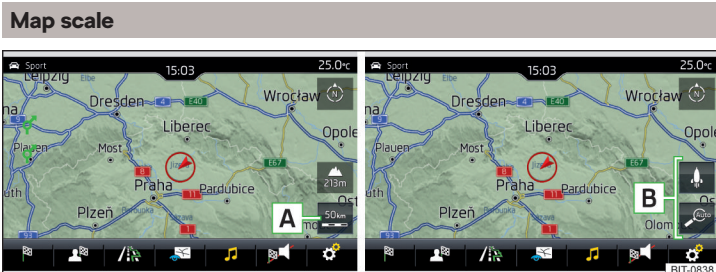

Fig. 196 Function surfaces for changing the map scale
▶ Tap the function surface **A** » Fig. 196.
In area **B** » Fig. 196, function surfaces for changing the map scale are displayed.